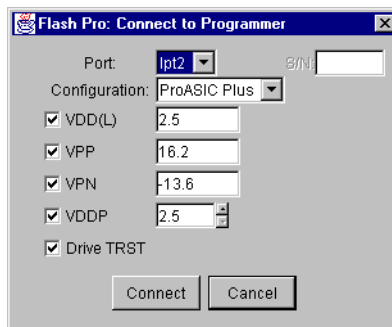

Figure 2-1. FlashPro: Connect to Programmer Dialog Box
1. **From the File menu, click Connect.** The FlashPro Connect to Programmer dialog box displays, as shown in Figure 2-1.